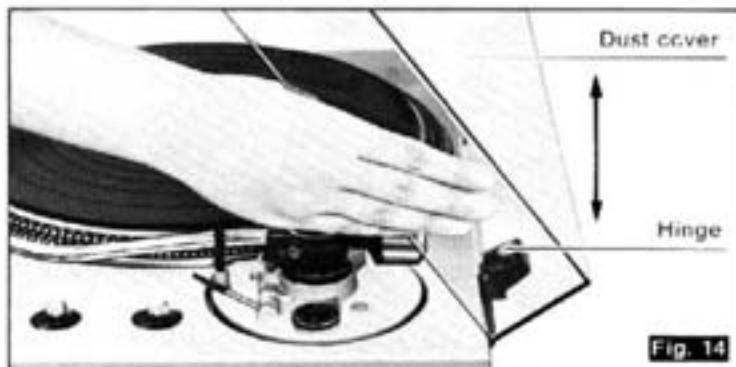

Fig. 14
#### ⑤ Installation of the dust cover. (See Fig. 14).